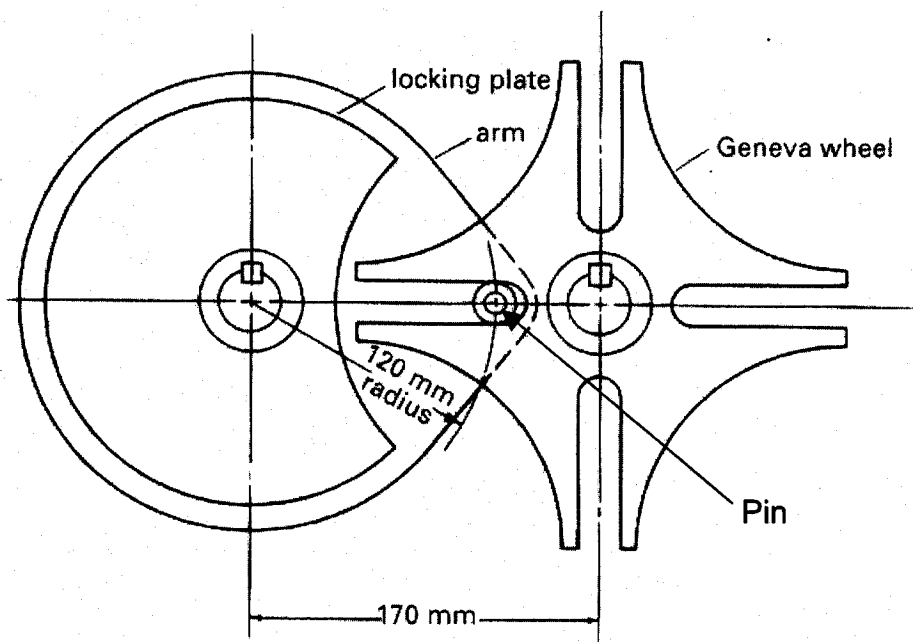

Figure 7.
7. A Geneva wheel, as shown in Figure 7, is a mechanism for converting continuous rotation into intermittent rotation, consisting of a driving arm upon which a pin is mounted, and a wheel with slots within which the pin moves radially. The wheel in Figure 7 has straight-sided radial slots and the pin is a cylindrical roller. The wheel is to be made from nickel cast iron ( $E = 138$  GPa,  $\nu = 0.25$ ) and the pin from steel ( $E = 207$  GPa,  $\nu = 0.3$ ). The pin is to have the same length as its diameter. The mechanism must transmit a torque of 75 Nm.
- Determine the maximum contact force that the pin experiences. (4)
- Determine the minimum pin dimensions based on a maximum allowable contact pressure of 545 MPa. (16)